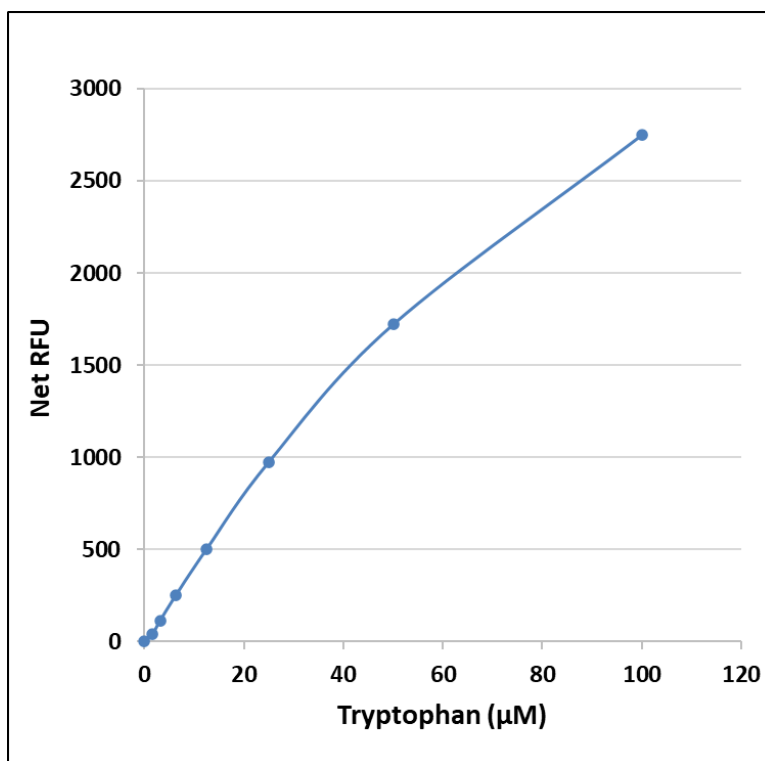

Figure 1. Tryptophan Standard Curve.
4. Graph the standard curve (see Figure 1).